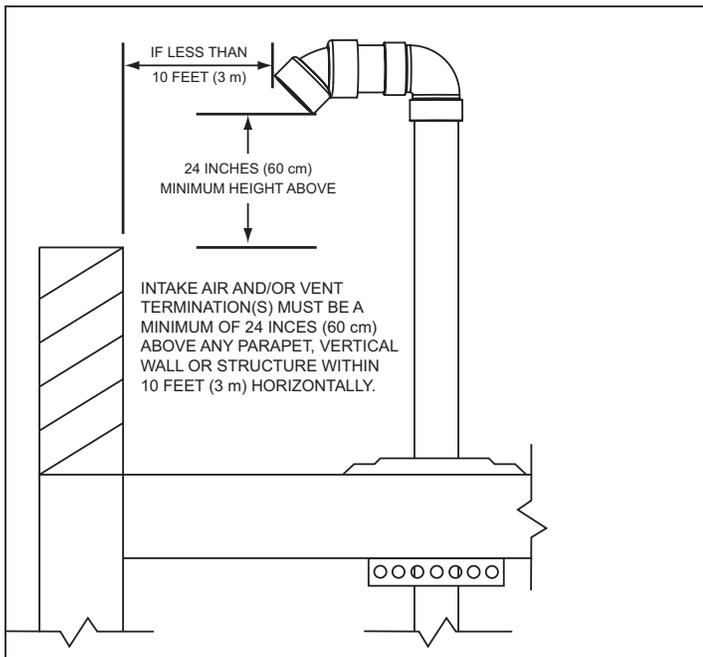

Figure 20. Vertical Termination(s) Flat Roof Clearance
2. If installing only the vent (exhaust) piping in a Power Vent configuration vertically through the roof; ensure that all exterior vertical clearance requirements, shown in *Figure 19* and *Figure 20* (page 26), are being maintained. These clearances and those cited by local and national codes must be maintained.
**Note:** On flat roof installations the vent termination must be a minimum of 24 inches (61 cm) above any parapet, vertical wall or structure within 10 feet (3 m) horizontally. See *Figure 20* (page 26).
3. If installing both intake air and vent piping in a Direct Vent configuration vertically through the roof; ensure that all exterior vertical clearance requirements shown in *Figure 20* (page 26) and *Figure 21* (page 26) are being maintained. These clearances and those cited by local and national codes must be maintained.
**Note:** On flat roof installations the intake air and the vent terminations must be a minimum of 24 inches (61 cm) above any parapet, vertical wall or structure within 10 feet (3 m) horizontally. See *Figure 20* (page 26).
The vent termination must be oriented facing downward as shown in *Figure 19* and *Figure 20* (page 26).